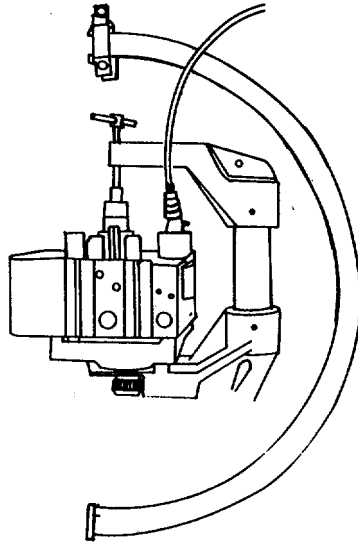

FIGURE 4-5. *Hydrostatic Tester and Plate.*
- (2) Tighten the injector sleeve holding tool capscrews to the following torque values:
- (3) Install the cylinder head in a hydrostatic tester and hydrostatic tester adapter plate (FIGURE 4-5) as follows: